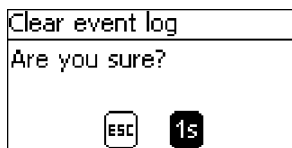

Fig. 16: Clear event log dialogue
1. ➡ Press SET. Fig. 16 appears.